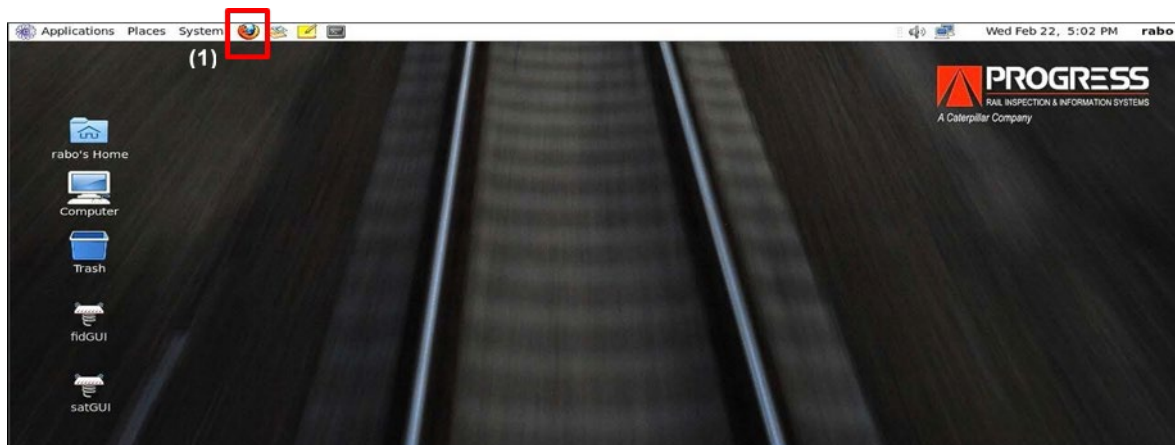

Figure 1 - FUES-EPOS system desktop (example)
1.3 Start the web browser by using the browser icon shown in the red box in Figure 1. The FUES-EPOS user interface login window opens. See Figure 2. This page has been defined as the web browser home page.